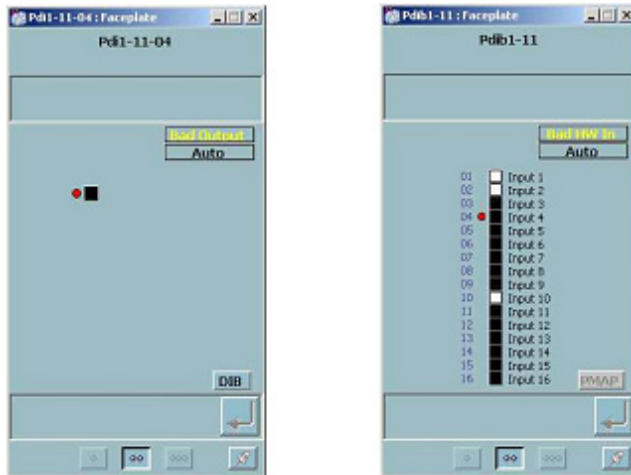

Figure 186. DI and DIB Module
**Discrete Input (DI / DIB).** Discrete input and discrete input block faceplates are representations of 800xA for DCI discrete (or digital) input tags. A DI module reports the current discrete value, alarm status, and quality that are presented in these faceplates and the DIB module reports the current discrete value for 16 DI modules. Figure 186 shows the layout of the DI and DIB normal sized faceplates and their attributes.